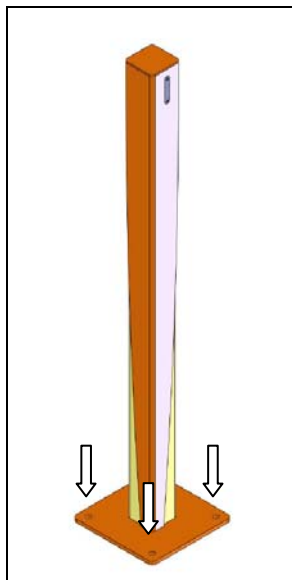

Fig. 1
3. Fix the baseplate with four mechanical or chemical anchors (Fig. 1) and washers.